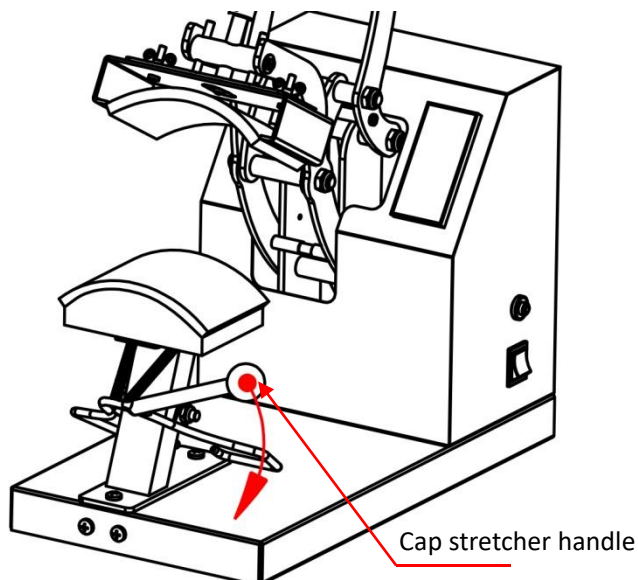
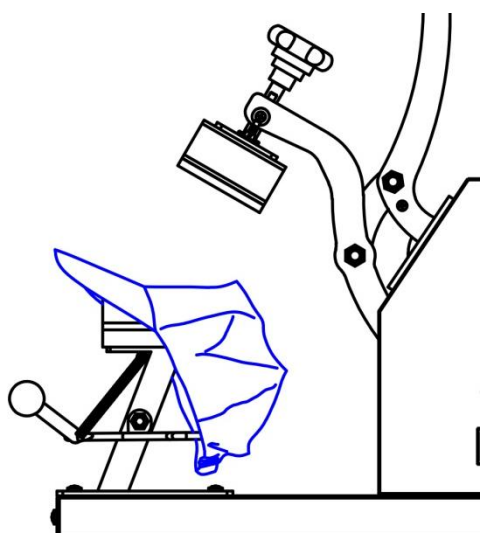

Figure 5
Figure 7
4. As shown in Figures 5 and 6, pull the “cap stretcher handle” following the direction of the arrow to lift the cap stretcher. Fit the cap to be processed onto the mould, release the “cap stretcher handle”, the cap will be flattened, as shown in Figure 7.